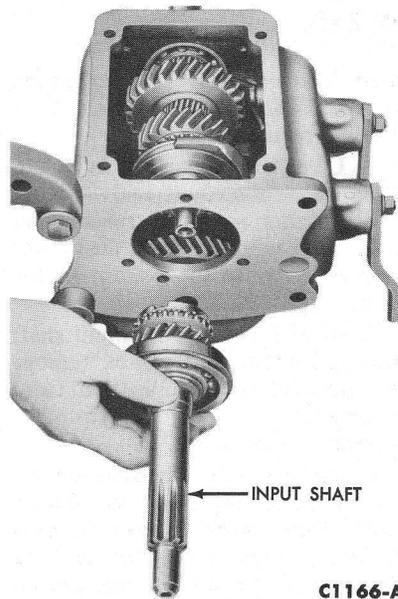

FIG. 3—Input Shaft Removal
7. After removing the input shaft bearing retainer and gasket, remove the input shaft assembly and front synchronizer blocking ring from the transmission case (Fig. 3).